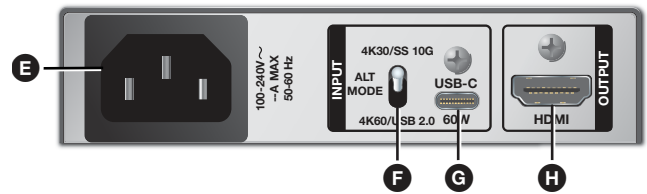

Figure 3. UCS 601 Rear Panel
- B USB 3.2 Type-A Device Ports (3)** — Connect up to three USB peripheral devices (such as cameras, touch displays, and microphones).
- C Power delivery LED** — Indicates status of USB-C power delivery (see figure 3, **G**) to the host PC.
**NOTE:** Before toggling the DisplayPort Alt Mode switch (see figure 3, **F** on page 2), disconnect the AC power cord (from **E**) and USB-C cable (from **G**) and power cycle. After 45 seconds, reconnect the power cable, followed by the USB-C cable.
**G** **USB-C Input** (see figure 3 on page 2) — Connect a USB-C source device to the USB-C input.